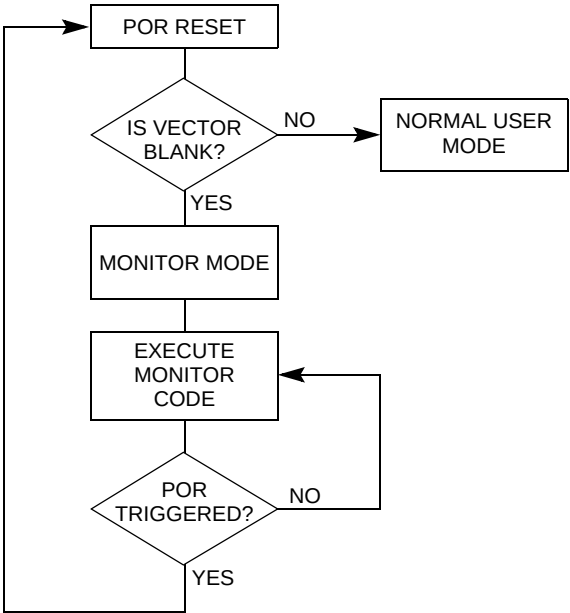

Figure 10-2. Low-Voltage Monitor Mode Entry Flowchart
**Figure 10-2** shows a simplified diagram of the monitor mode entry when the reset vector is blank and just  $1 \times V_{DD}$  voltage is applied to the  $\overline{IRQ}$  pin. An external oscillator of 9.8304 MHz is required for a baud rate of 9600, as the internal bus frequency is automatically set to the external frequency divided by four.